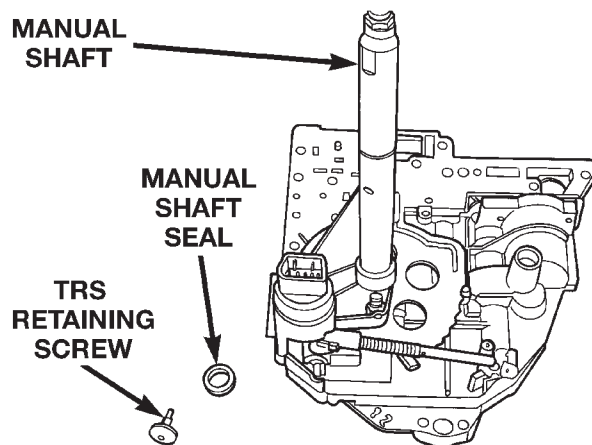

Fig. 29 Remove Manual Shaft Seal
- (13) Remove manual shaft seal (Fig. 29).